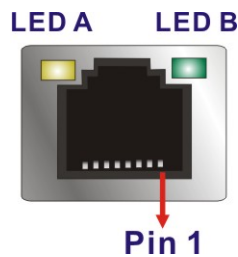

Figure 3-25: LAN Connector
- CN Pinouts:** See Figure 3-25 and Table 3-23